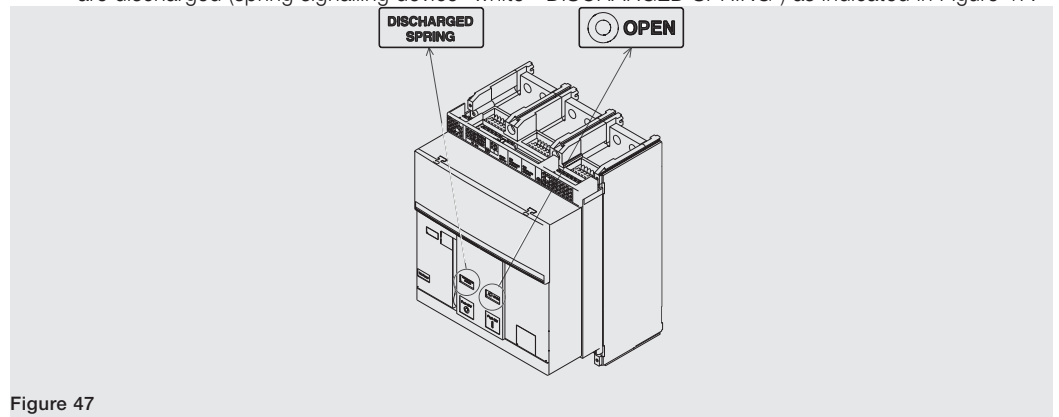

Figure 47
7. Check that the circuit-breaker is open (open / closed indicator "O - OPEN"), and check that the springs are discharged (spring signalling device "white - DISCHARGED SPRING") as indicated in Figure 47.